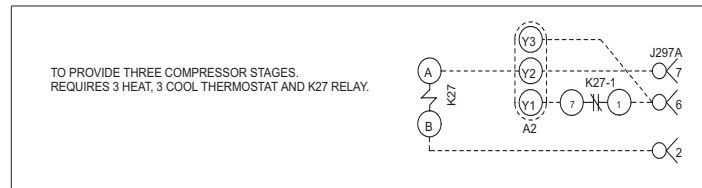

Figure 31. Third-Stage Cool (Parameter 111) Wiring
- **Option 3. Three Cooling Stages:** Cooling operation is shown in “Table 8. Thermostat Mode Operation (Three Cooling Stages Parameter 111)” on page 31; this option requires the use of a three-stage cool thermostat and a K27 relay. See wiring pictorial in “Figure 31. Third-Stage Cool (Parameter 111) Wiring” on page 30 and C section control wiring diagram.